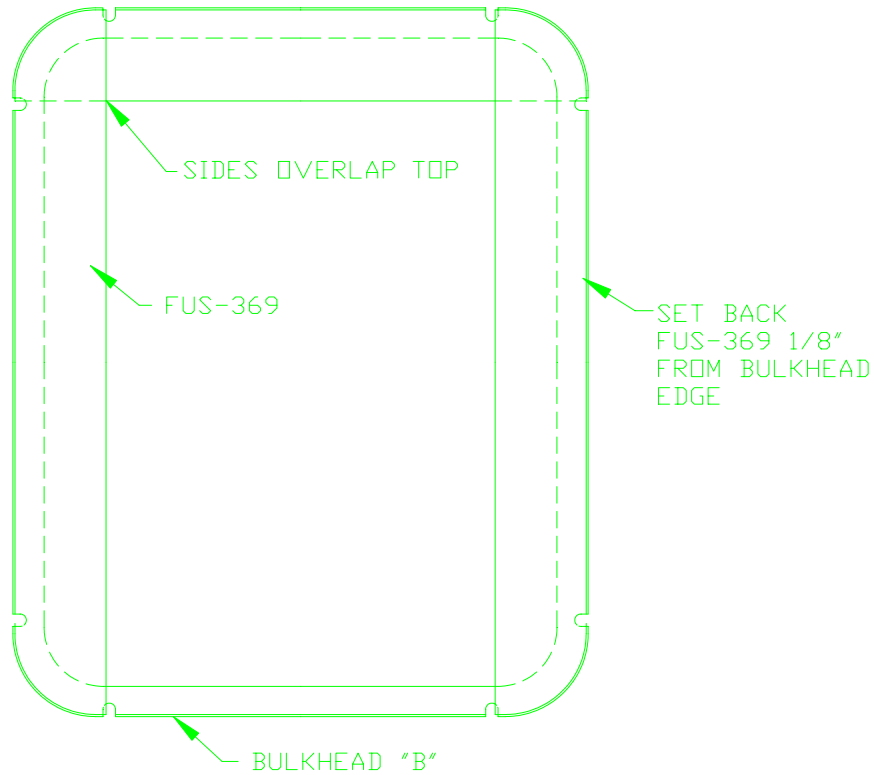

FIGURE 3
- 4) Trim the three FUS-369 bulkhead webs to fit on the front side of bulkhead "B" as in Figure 3.
25) Ream or drill out the wing attach holes of two FUS-345 wing attach brackets to 3/8". Position one of the brackets on the station 5 bulkhead as in Figure 3. Backdrill through the bracket into the bulkhead.